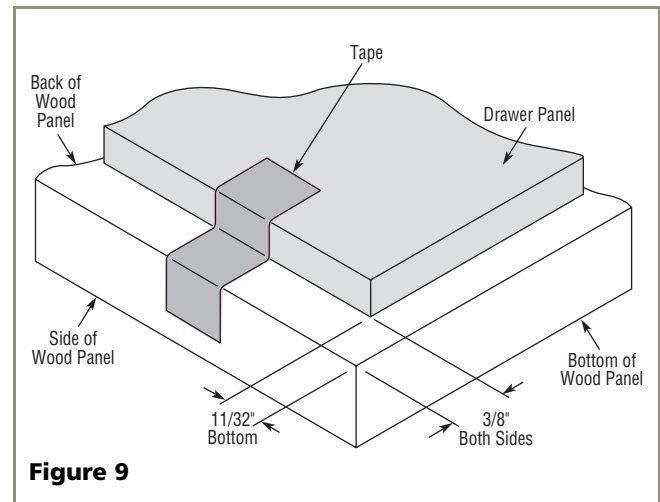

Figure 9
2. Place and tape the existing drawer panel on the back of the overlay panel (see **Figure 9**).